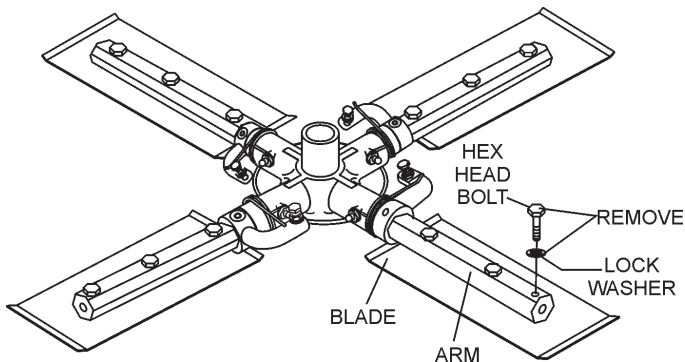

Figure 45. Trowel Blades
1. Remove the trowel blades from the trowel arm by removing the three hex head bolts (Figure 45) from the trowel arm. Set blades aside.